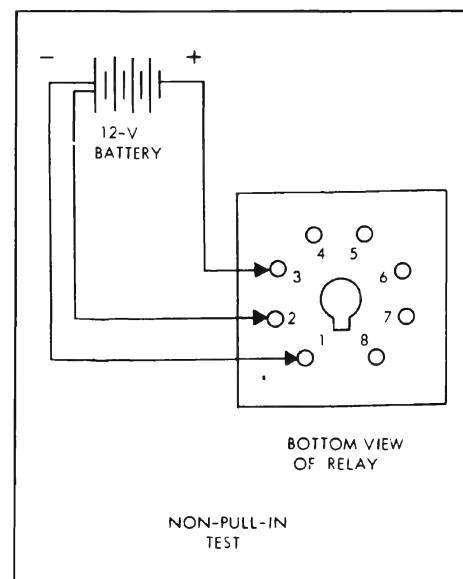

Figure 11-180—Relay Non-Pull-In Check
(1) Connect pins 1 and 2 to the negative terminal of a 12 volt battery. See figure 11-180.
(2) Connect pin 3 to the positive terminal of the battery.
(3) Connect a 12 volt test lamp such as a #57 lamp between the negative terminal of the battery and the relay, alternating the connection between pin 4 and 5.
(4) During either of the above connections, the lamp must not light. If lamp lights, a defective relay is indicated and must be replaced.
(5) Disconnect connection to pin 1 and again alternate the test lamp lead between pin 4 and 5.
(6) During either of the above connections the lamp should light. Failure of the lamp to light indicates a defective relay and must be replaced.